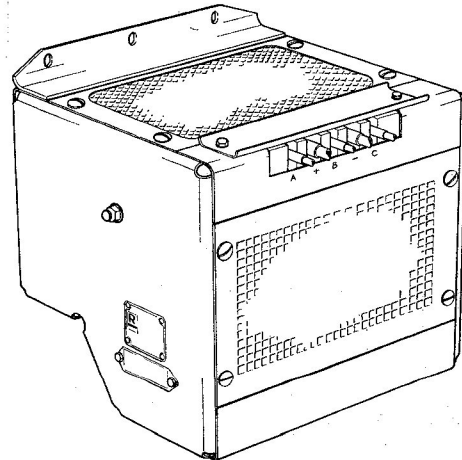
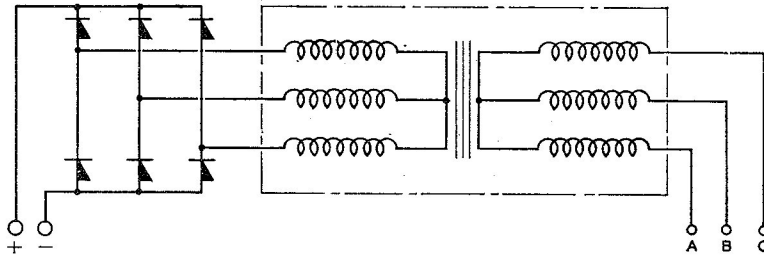

Fig. 1. Transformer rectifier unit, Type U5501
Fig. 2. Diagram of internal connections
2. The U5501 unit (*fig. 1*) consists of a three-phase, star—star connected transformer (P12901) and six (handed) diodes interconnected as shown in *fig. 2* to form a three-phase full wave bridge.